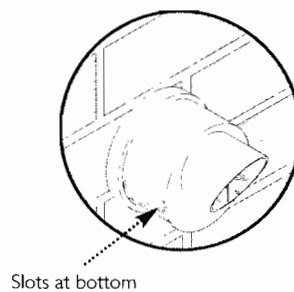

Fig. 25a
12. Ensure that the terminal is positioned with the slots to the bottom (Fig. 25a).